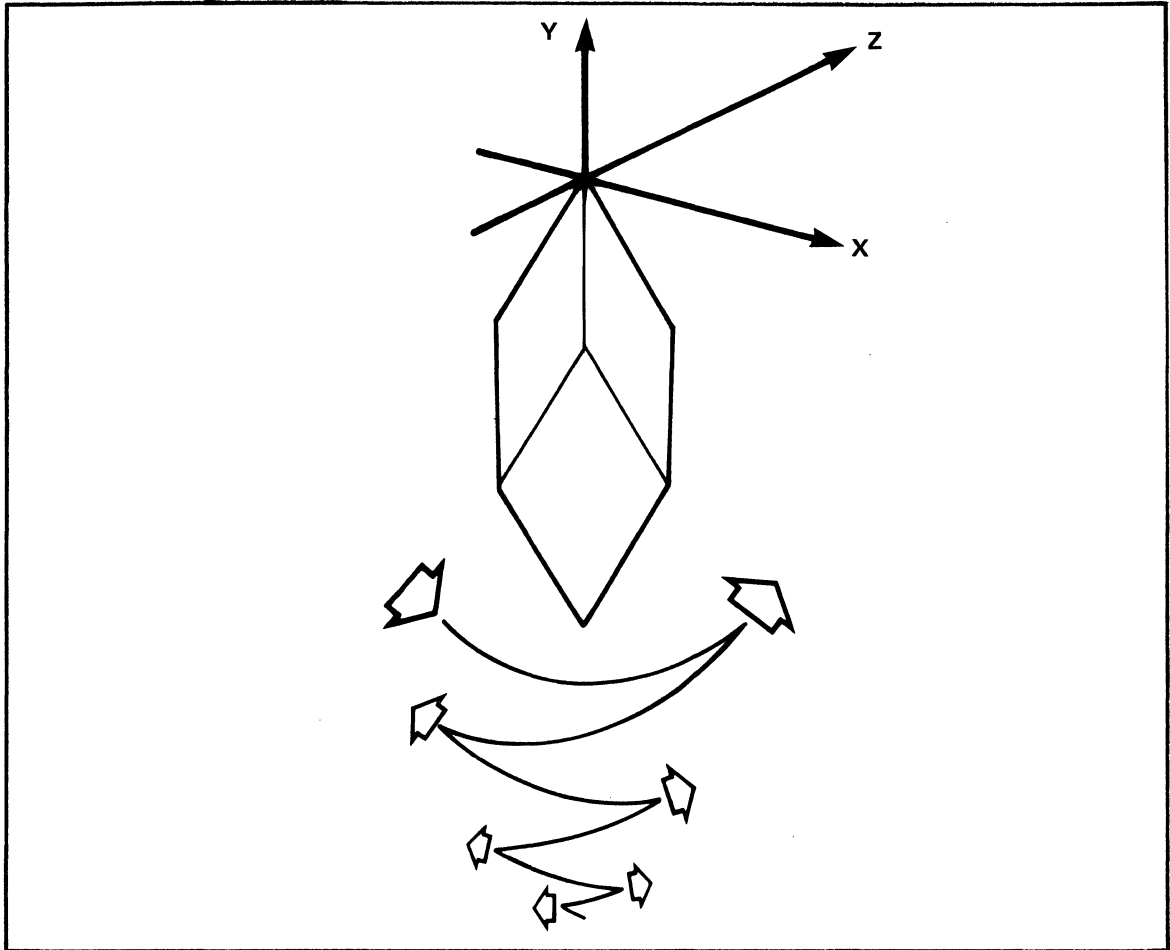

Figure A-9. Pendulum
- By using the solid pivoted about P', it is possible to make the solid act as a simple pendulum, gradually coming to rest from some start position. See Figure A-9.